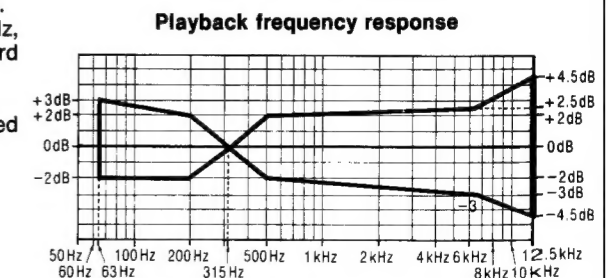

Fig. 9
5. Make sure that the measured values are within the range specified in the frequency response chart. (Shown in fig. 9).